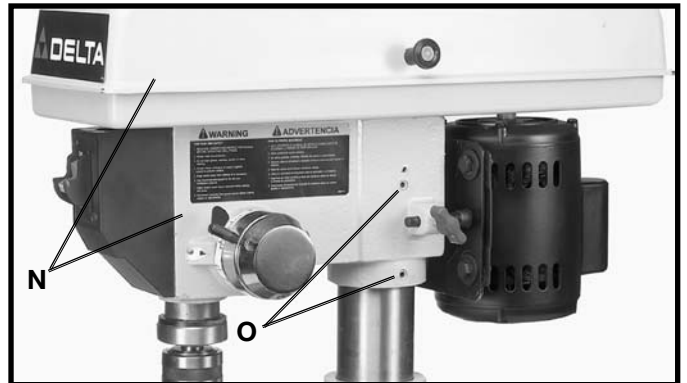

Fig. 15
11. Place the drill press head (N) Fig. 15, onto the column as far as it will go. Align head to table and base and tighten the two head locking screws (O) with wrench supplied.